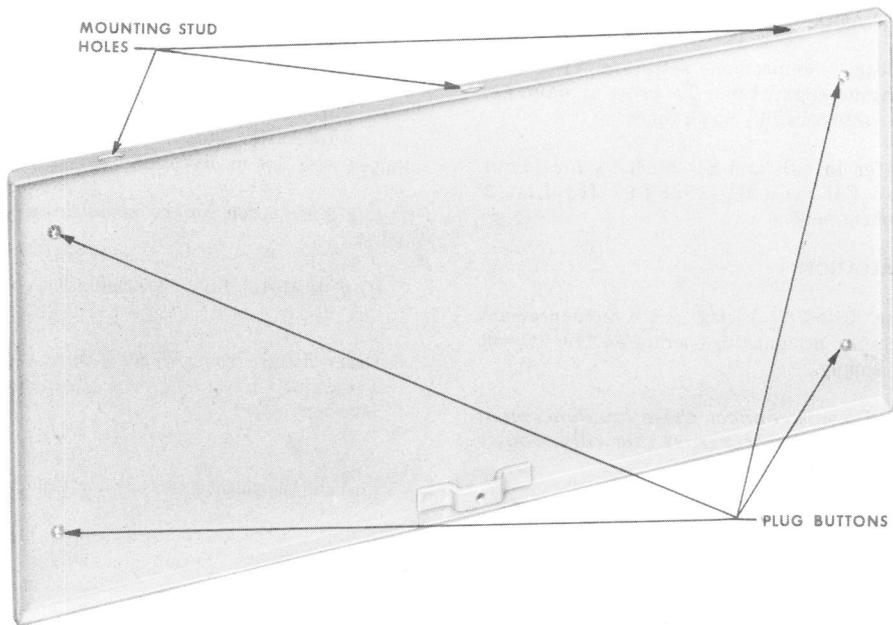
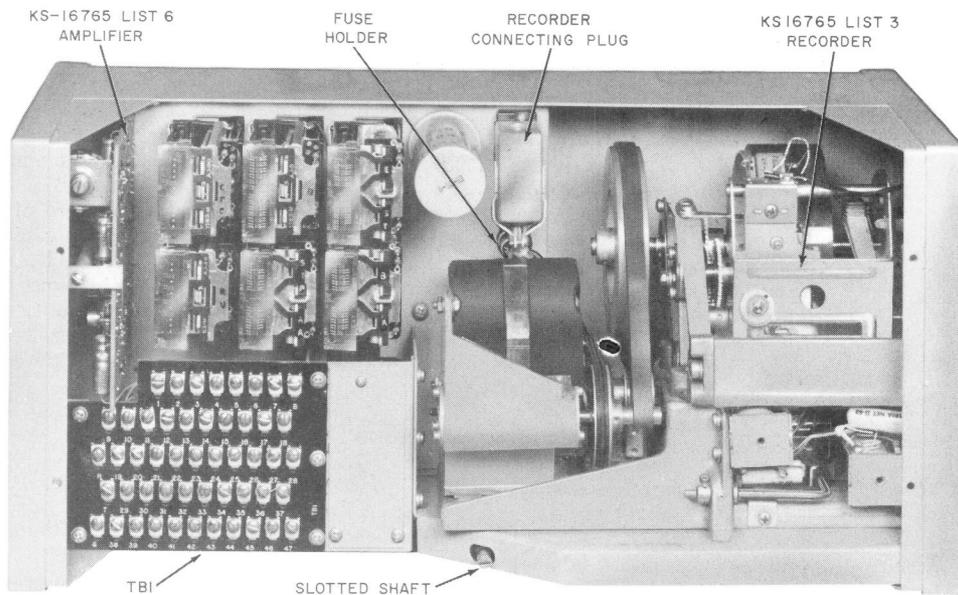
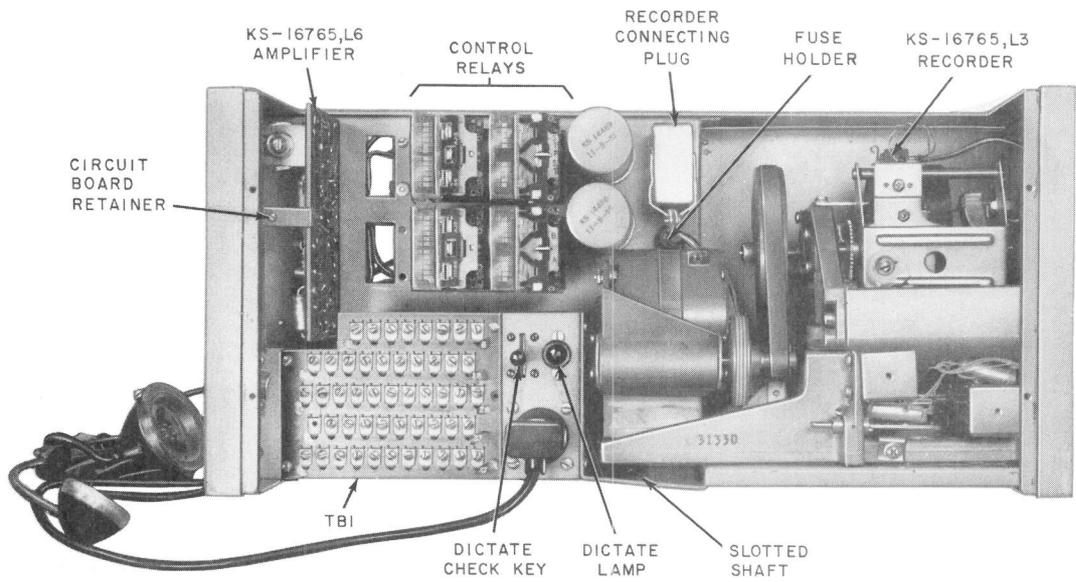

Fig. 2—KS-16765, Lists 1 and 2, Rear Cover
Fig. 3—KS-16765, List 1 Announcement Set, Front Cover Removed
Fig. 5—KS-16765, List 2 Announcement Set, Front Cover Removed
2.11 Refer to the appropriate sections to install the telephone set, cable, drop wire, connecting block, and inside wiring used with a List 1 set (Fig. 3 and 4) and to install the inside wiring used with a List 2 set (Fig. 5 and 6).
- (3) Remove the four plug buttons from announcement set rear cover (Fig. 2).
- (4) Mount rear cover to wall surface using four No. 14 screws or equivalent.
- (5) Hold set with top tipped slightly back. Insert the three mounting studs (Fig. 3 and 4) located on the underside of the top of the set into the three mounting stud holes in the top edge of the rear cover.
- (6) Tighten slotted shaft by turning clockwise with a screwdriver. This locks set to rear cover.